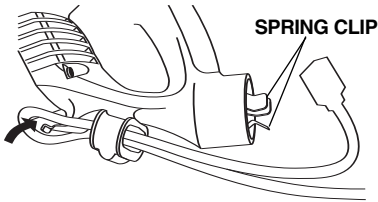

FIG. 5
2. Insert looped end of cord through slot in handle and loop cord into channel provided in handle as shown in figure. 5).